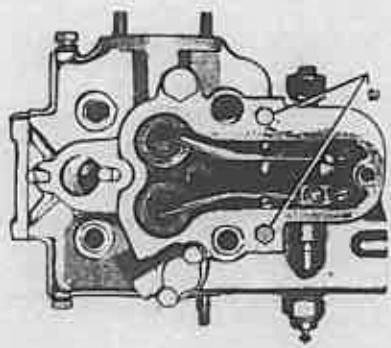

Fig. B 2
- Remove both locking screws (a fig. B 2)